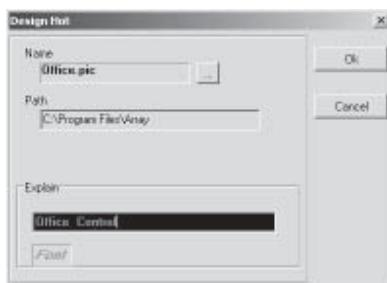

Fig. 4-38 Define Hot Area
1. Click the **quick icon** of the hot area  move the mouse to the **position in which to put the hot area**, then move it together with the rectangle appearing and click the **position where the rectangle appears**, then the dialogue frame, as in Fig. 4-38, will be shown. If you want to modify the defined hot area, just double click **the hot area** in the drawing diagram and the hot area definition dialogue frame, as in Fig. 4-38, will be opened.